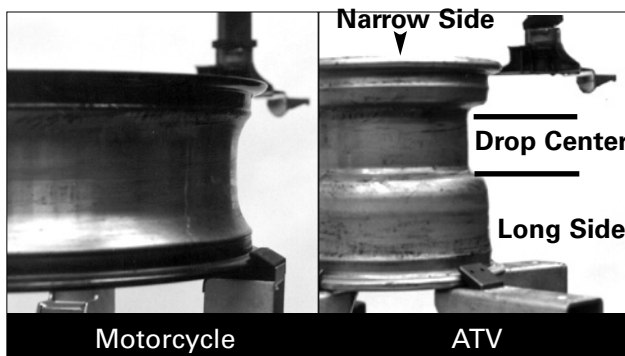

Figure 4 - Determining Mounting Side of Wheel (note that many motorcycle rims are symmetrical).
Note: Always loosen the bead on the narrow side of the wheel's drop center first (motorcycle wheels may not have a narrow or long side, and some ATV wheels may not bolt together). See figure 4 for more information on the drop center.
6. Determine the mounting side of the wheel. The mounting side is the narrow side of the drop center (tire removed in figure 4 for clarity).